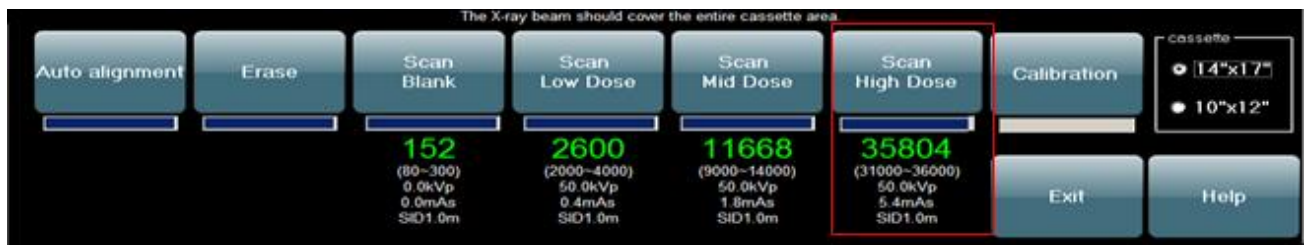

Figure 13
- › Left click *Scan High Dose*. *Figure 13*